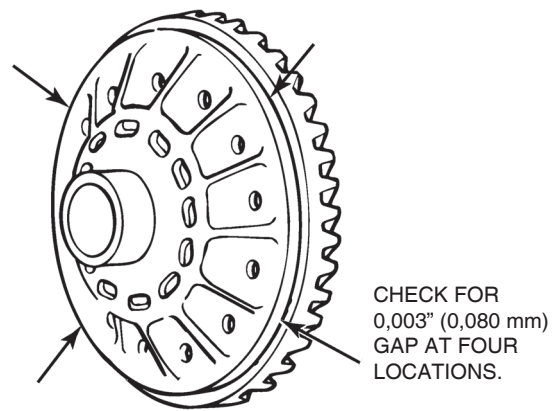

Figure 5.20
- Inspect for gaps between the back surface of the ring gear and the case flange. Use a 0.003-inch (0.080 mm) feeler gauge to inspect at four points around the assembly. Figure 5.20.